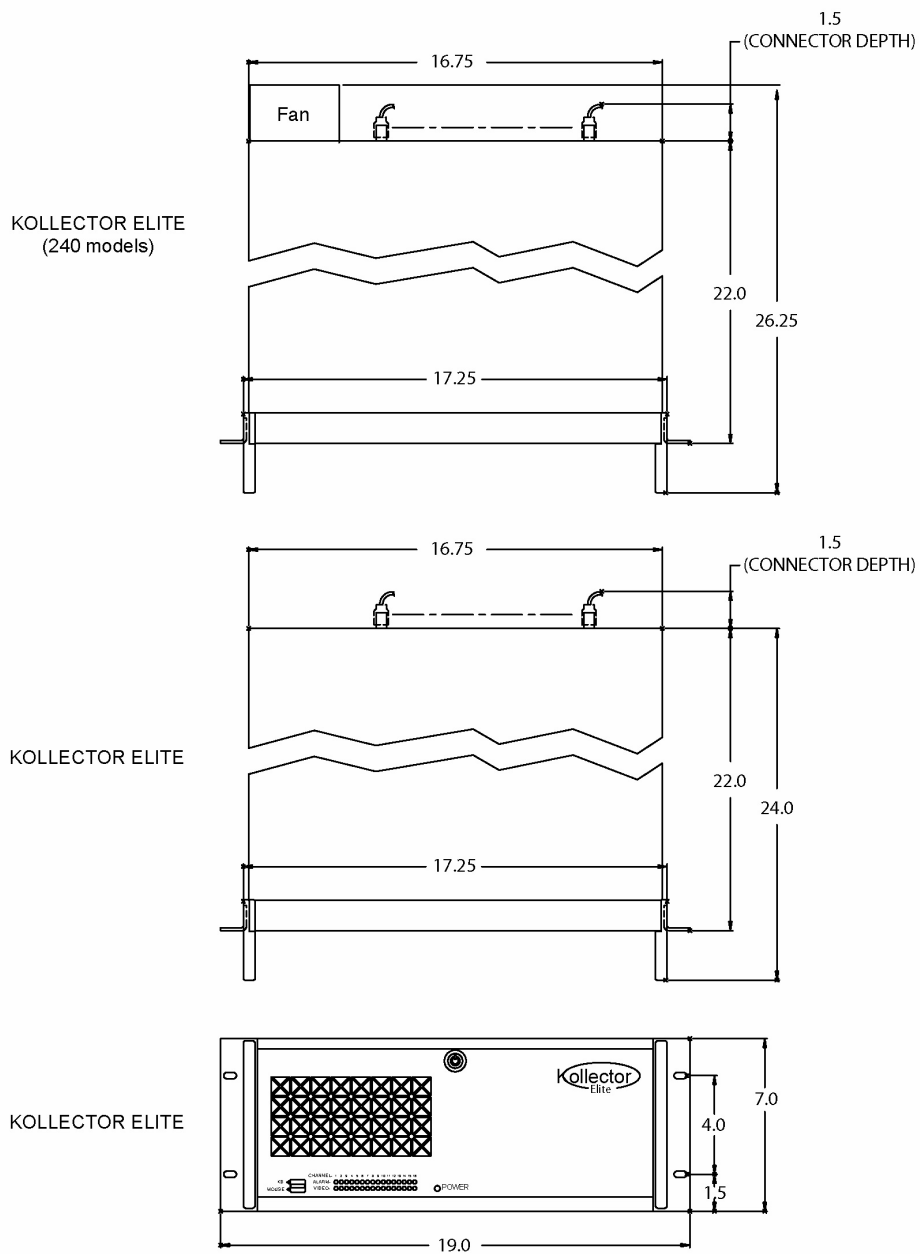

Figure 10-1: Kollector Elite Dimensions
Dimensions	Height (H): 7.0 in. (178 mm) Width (W): 19.0 in. (483 mm) Depth (D): 22.0 in. (558.8 mm) for 120 fps models 24.25 in (615.95 mm) for 240 fps models with extra fan Note: Refer to Figure 10-1.